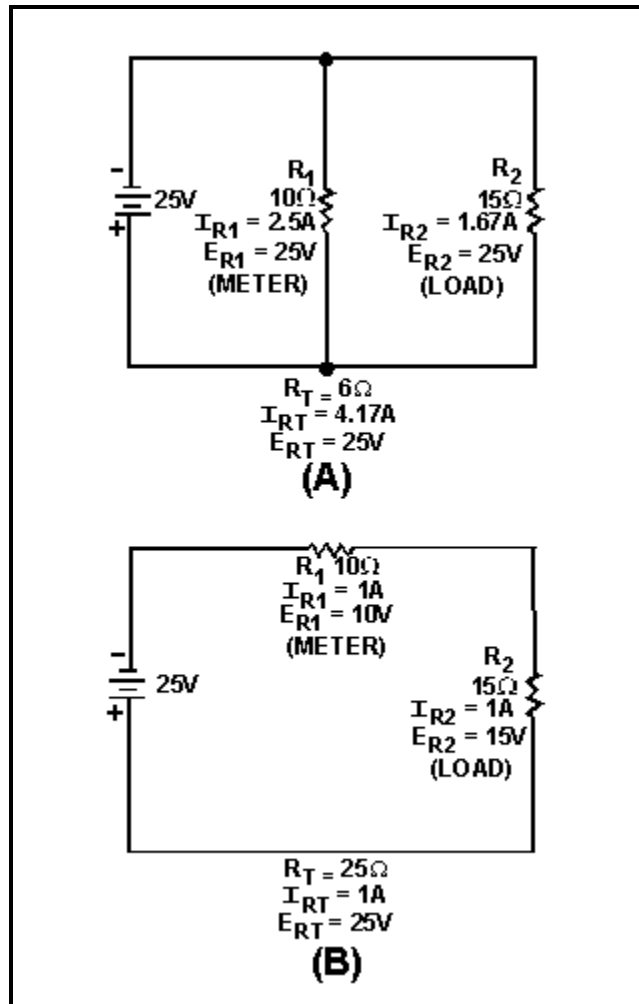

Figure 1-25.—Current and voltage in series and parallel circuits.
While ammeters are always connected in series, voltmeters are always connected in parallel. Figure 1-25 (and the following figures) use resistors to represent the voltmeter movement. Since a meter movement can be considered as a resistor, the concepts illustrated are true for voltmeters as well as resistors. For simplicity, dc circuits are shown, but the principles apply to both ac and dc voltmeters.
Figure 1-25(A) shows two resistors connected in parallel. Notice that the voltage across both resistors is equal. In figure 1-25(B) the same resistors are connected in series. In this case, the voltage across the resistors is not equal. If  $R_1$  represents a voltmeter, the only way in which it can be connected to measure the voltage of  $R_2$  is in parallel with  $R_2$ , as in figure 1-25(A).